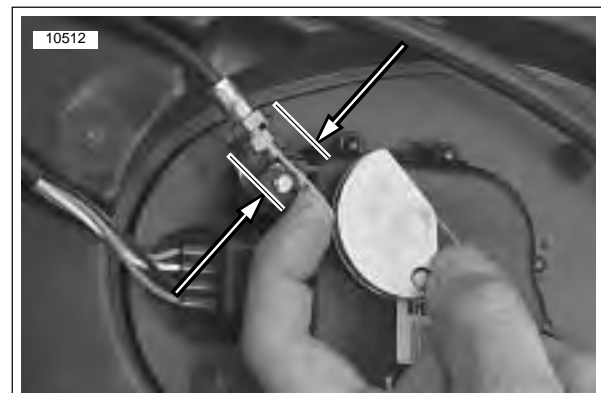

Figure 1-47. Checking For 1/8 in. (3.18) Maximum Free Play In Either Direction For Proper Adjustment
9. See Figure 1-47. Adjust interactive exhaust cable as follows: